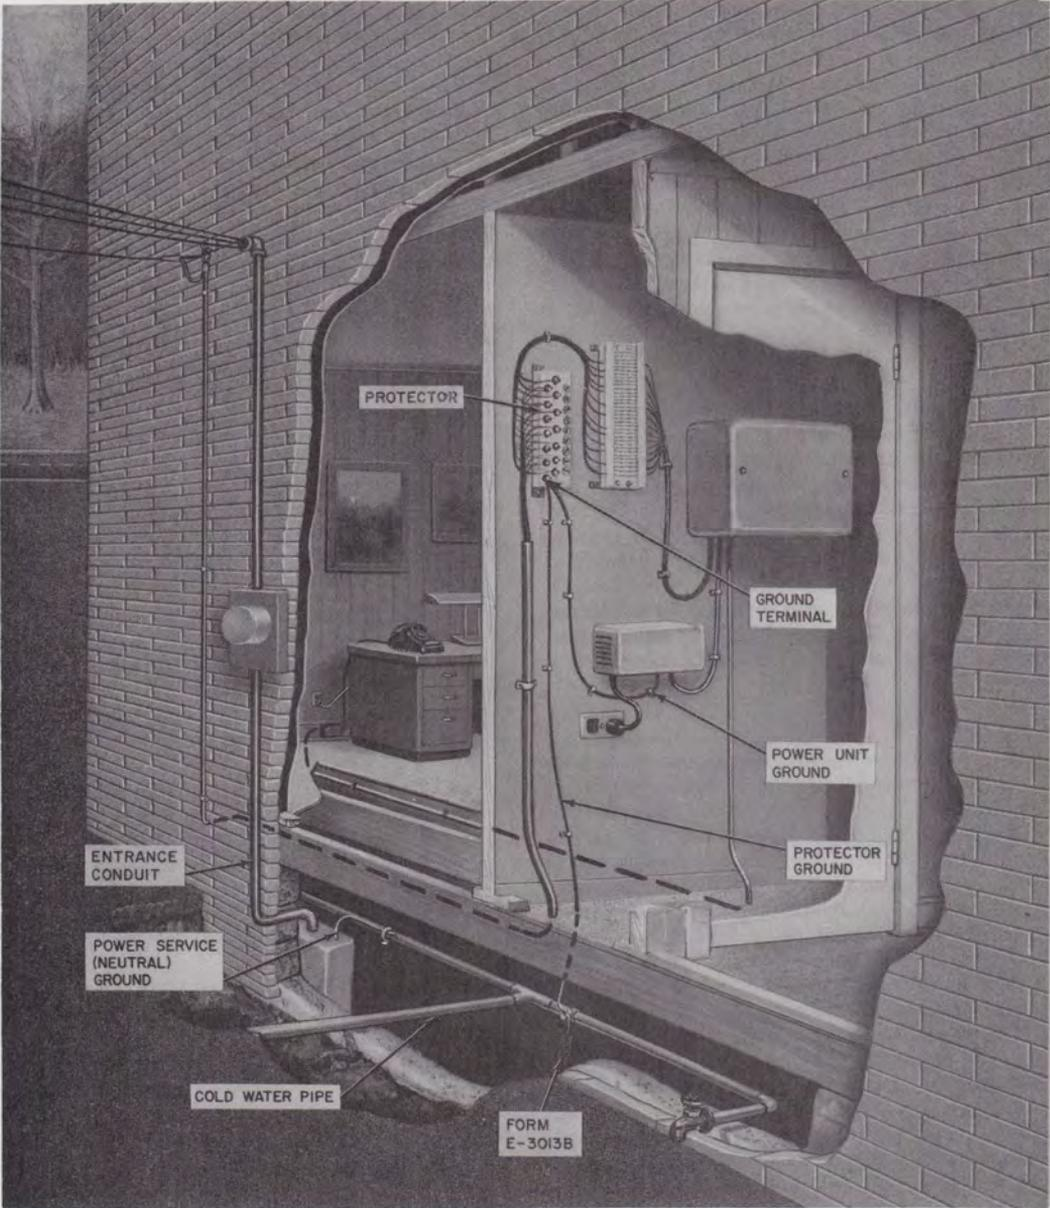

Fig. 1—Properly Grounded 1A2 Key Telephone System
2.03 *KTS installations usually require station protection in lightning areas regardless of power exposure of the telephone plant.* This condition is discussed in more detail in Part 4 of this practice. Briefly, however, the key station must be protected from the voltages that can be developed between any two ground points. These ground points include the KTS power supply ground, the commercial power ground, the station protection ground, and the CO or PBX ground. **It is strongly recommended that protection of KTS lines always be considered in areas where thunderstorm activity can occur.** The lack of such protection can result in damage to and failure of circuit pack and power supply components. Fig. 1 illustrates a typical installation protected and grounded according to the requirements presented here.